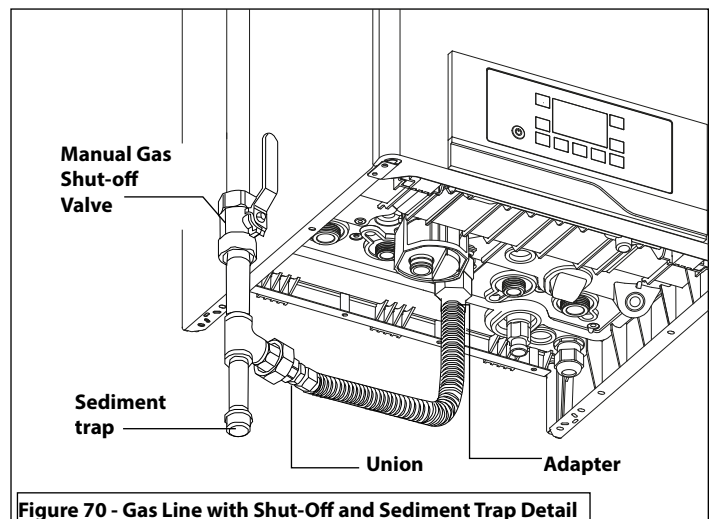

Figure 70 - Gas Line with Shut-Off and Sediment Trap Detail
subject to freezing conditions. See Figure 70.
- A manual gas shut-off valve should be installed in the gas supply line close to the boiler. See Figure 70.